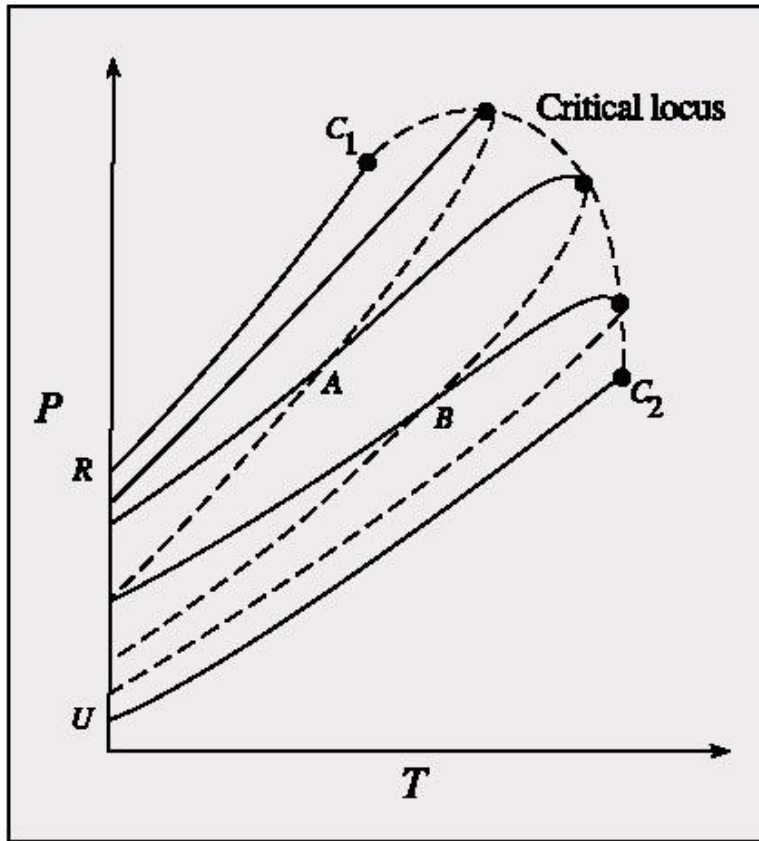

Figure 10.3: PT diagram for several compositions.
- At point A and B in figure 10.3 saturated liquid of one composition and saturated vapor of another composition intersects (and have same T and P). The two phases are therefore in equilibrium